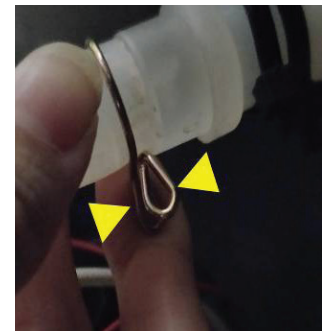

Figure 3
5. Look for a connector in the front of water tube clips with a metal clamp. Press down on the metal clamp and move slightly to the end of tube. (Figure 3)